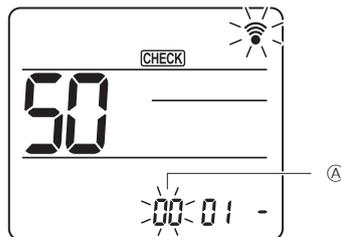

Fig. 7-18
- ② Setting the unit number
Press the <math>\downarrow</math> button to set unit number ①. (Fig. 7-18)